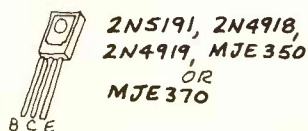

FIG. 2
1. Two diodes connected in series may be replaced with a single transistor connected in the "amplified junction" configuration. Or any number of series-connected forward-biased diodes may be replaced in the same fashion. See Fig. 2. Use a power transistor (or medium dissipation) in order to realize